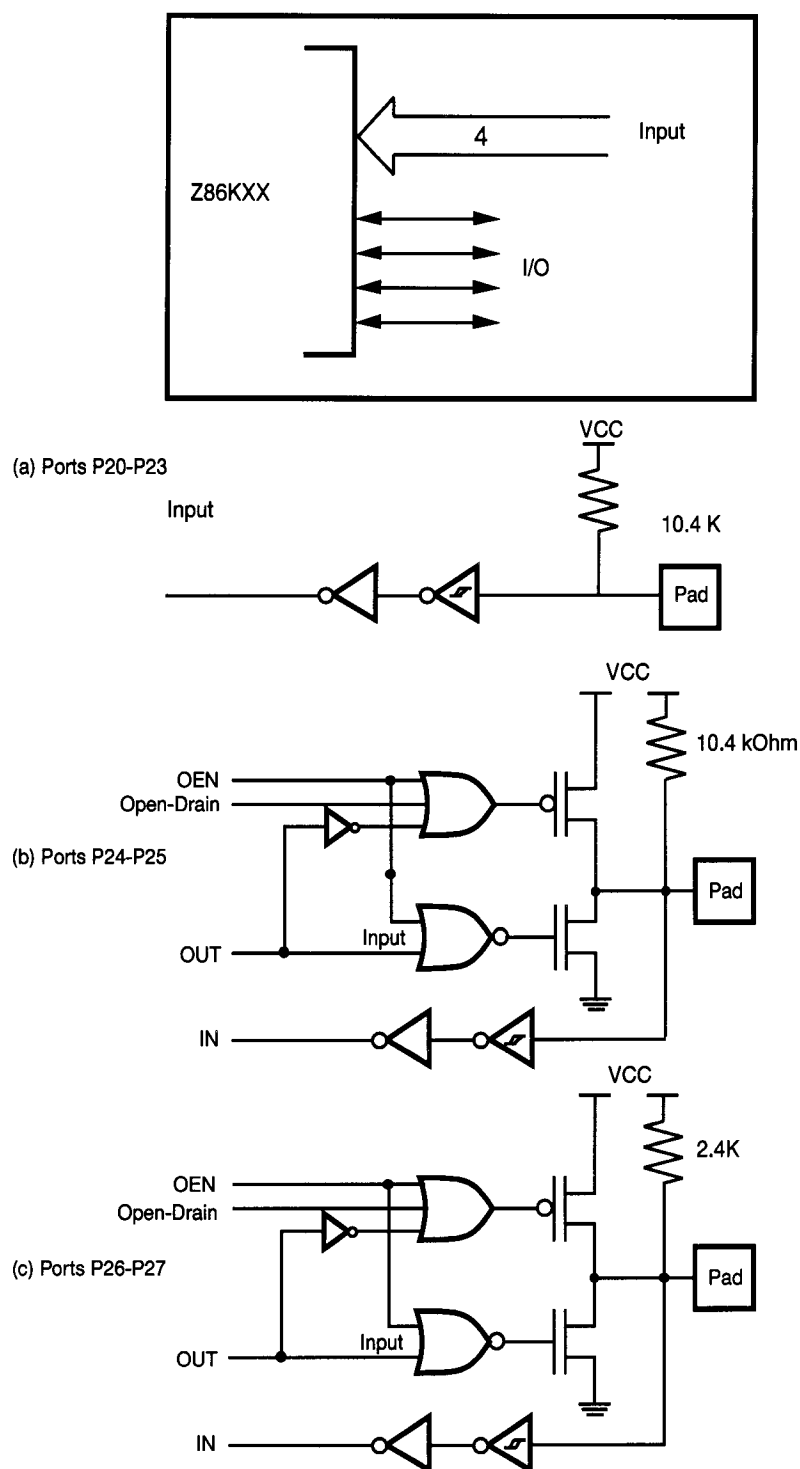

Figure 9. Port 2 Configuration
**Port 2 (P27-P20).** Port 2 is an 8-bit, CMOS-compatible Port with 4-bit input, 4-bit programmable I/O (Figure 9).